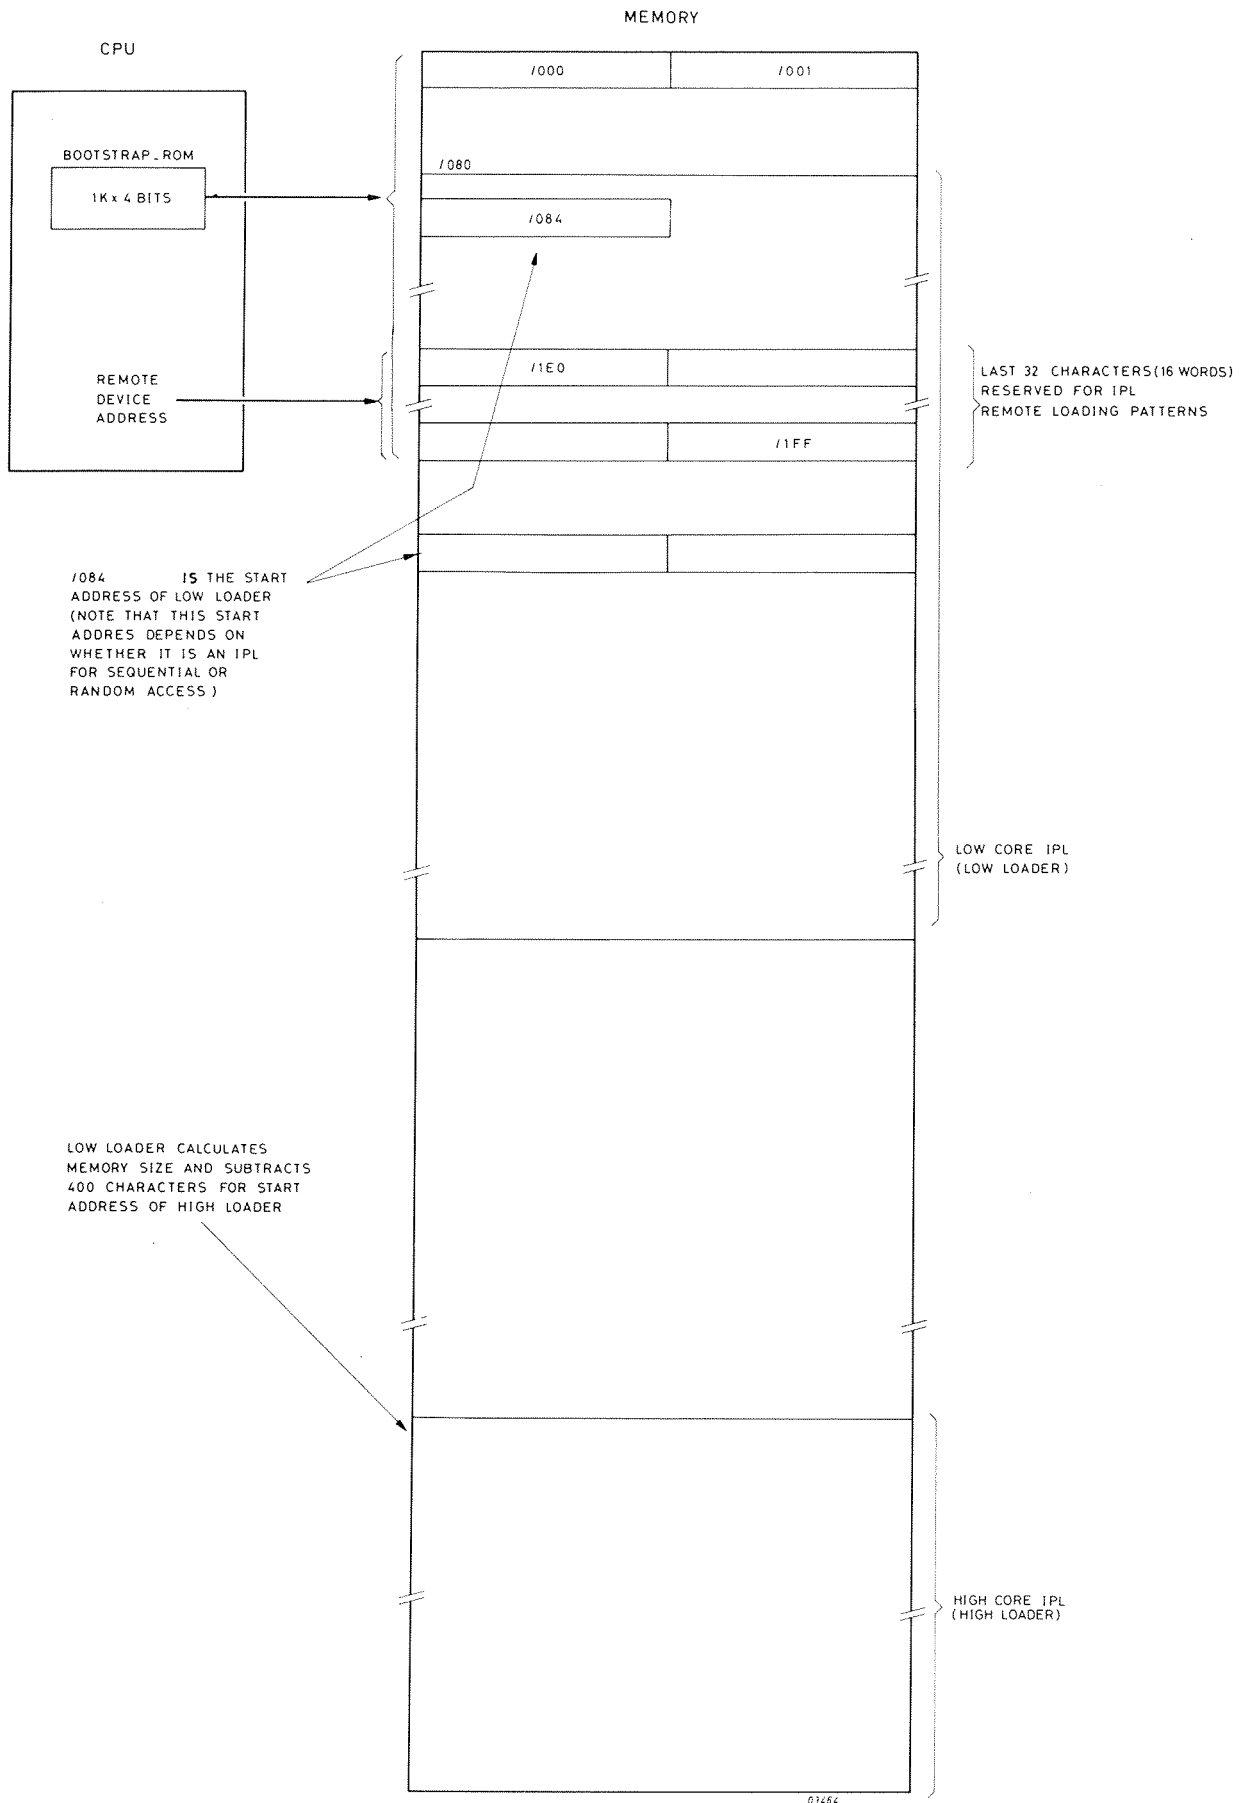

Figure 1.12 INITIAL PROGRAM LOADER - PRINCIPLE
1.10 INITIAL PROGRAM LOADER (FIGURE 1.12)